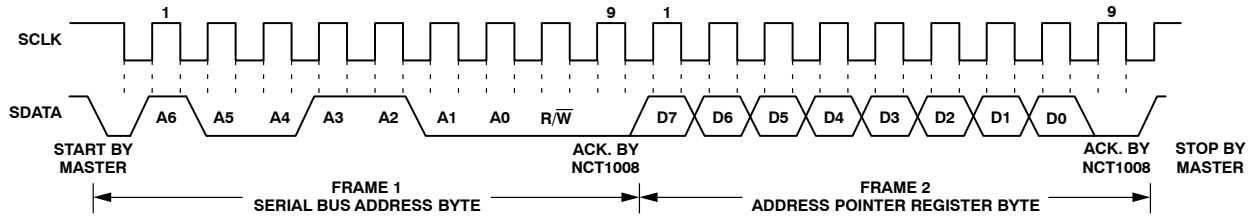

Figure 16. Writing to the Address Pointer Register Only
- If the address pointer register value of the NCT1008 is unknown or not the desired value, it is first necessary to set it to the correct value before data can be read from the desired data register. This is done by writing to the NCT1008 as before, but only the data byte containing the register read address is sent, because data is not to be written to the register see Figure 16.
- If the address pointer register is known to be at the desired address, data can be read from the corresponding data register without first writing to the address pointer register and the bus transaction shown in Figure 16 can be omitted.